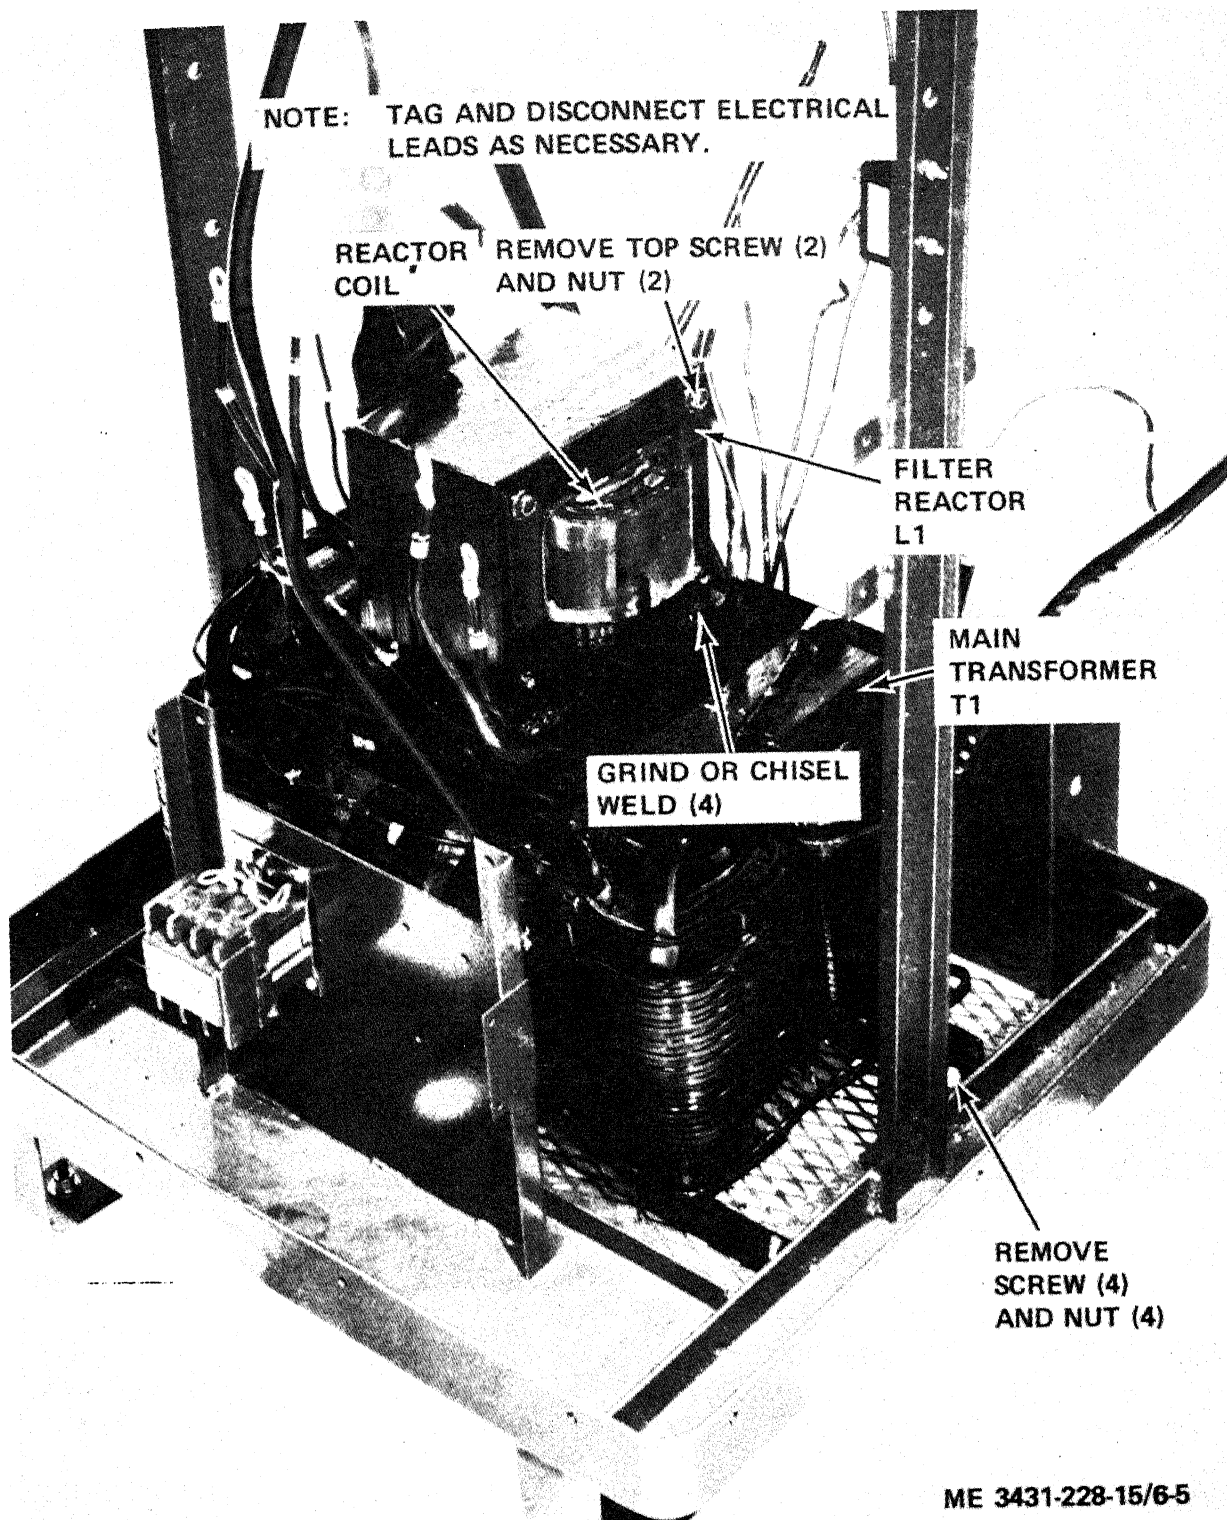

Figure 6-5. Main transformer T1 and filter reactor L1, removal and installation.
- (1) Disconnect ac power from the welding machine.
- (2) Remove the timer and high frequency drawer (para 3-19).
- (3) Remove the top and housing from the welding machine (para 3-20).
- (4) Remove the fan motor and guard assembly (para 3-36).
- (5) Remove the front control panel (para 6-13).
- (6) Remove the power rectifier assembly suspended above the transformer (para 6-26).
- (7) Remove the tesla coil (para 6-20).
- (8) Remove overload relay K7 and control transformer T2 (para 6-18).
- (9) Remove filter reactor L1 (para 6-21).
- (10) Refer to figure 6-5 and use proper material handling equipment to remove the main transformer from the base.
- (1) Refer to figure 6-5 and install the main transformer on the base assembly.
- (2) Install filter reactor L1 (para 6-21).
- (3) Install overload relay K7 and control transformer T2 (para 6-18).
- (4) Install tesla coil (para 6-20).
- (5) Install power rectifier assembly (para 6-26).
- (6) Install front control panel (para 6-13).
- (7) Install fan motor and guard assembly (para 3-36).
- (8) Install top and housing (para 3-20).
- (9) Install the timer and high frequency drawer (para 3-19).
- (2) Remove timer and high frequency drawer (para 3-19).
- (3) Remove top and housing from the welding machine (para 3-20).
- (4) Remove the power rectifier assembly (para 6-26).
- (5) Refer to figure 6-5 and remove the filter reactor or filter reactor coil.
- (1) Refer to figure 6-5 and install the coil on the core or install the filter reactor on main transformer T1.
- (2) Install the power rectifier assembly (para 6-26).